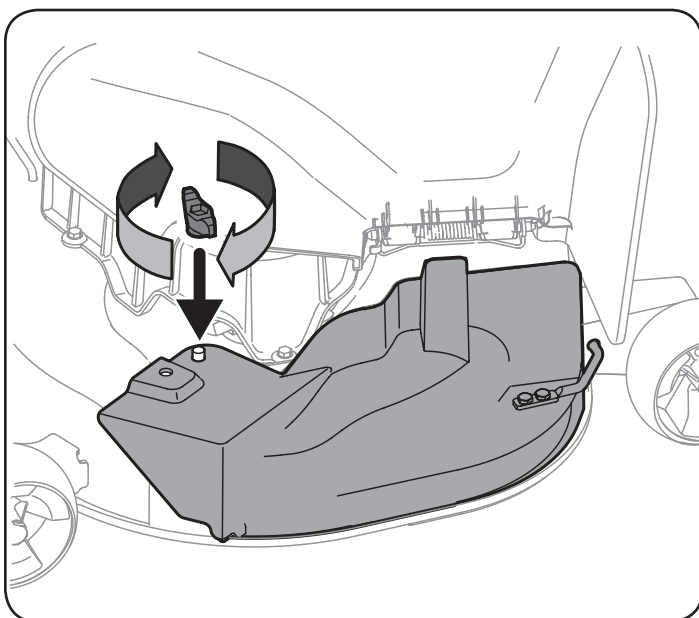

Figure 7
4. Secure the mulch plug in place with the wing knob. See Figure 7.